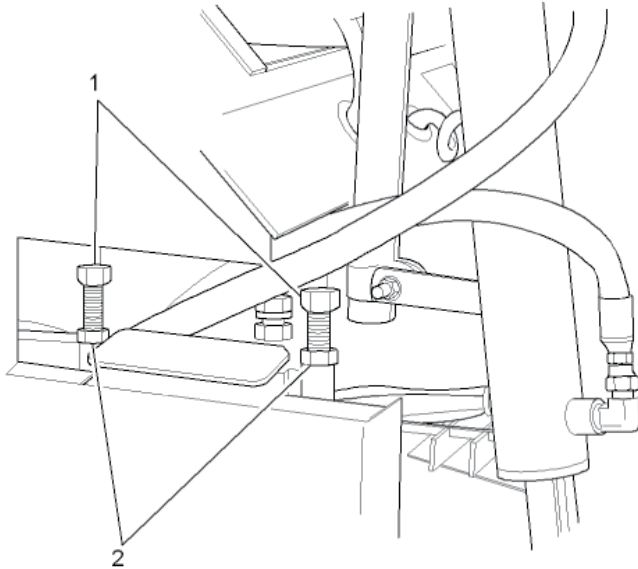

Figure 5-12. Conveyor Chain Adjusting Bolts
2. If adjustment is necessary, loosen the Locknuts (**Figure 5-12,2**) on the chain adjuster. Turn the Chain Adjuster (**Figure 5-12,1**) until the whip in the drive chain disappears.
3. Retighten Locknuts (**Figure 5-12,2**) when adjustment is made.